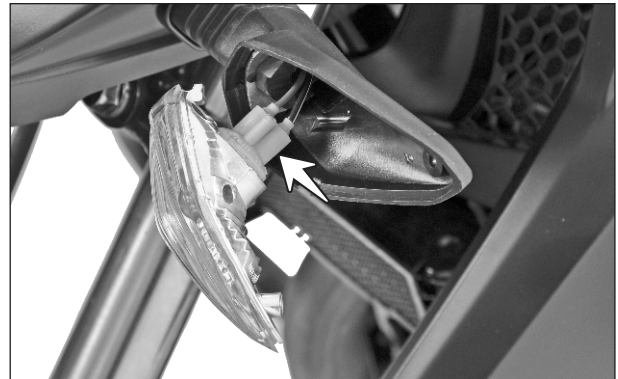

Fig. 5.45
- Rotate and pullout the bulb holder from the housing and replace the bulb with a new one. (Fig. 5.45)